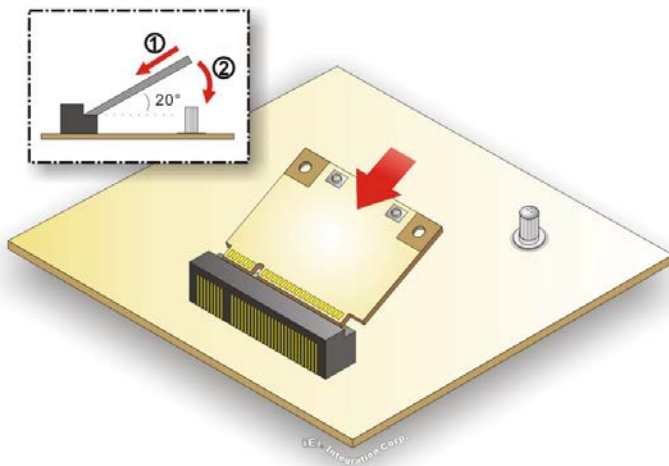

Figure 3-20: Inserting the WLAN Module
Step 5: Line up the notch on the WLAN module with the notch on the slot. Slide the WLAN module into the slot at an angle of about 20° (**Figure 3-20**).